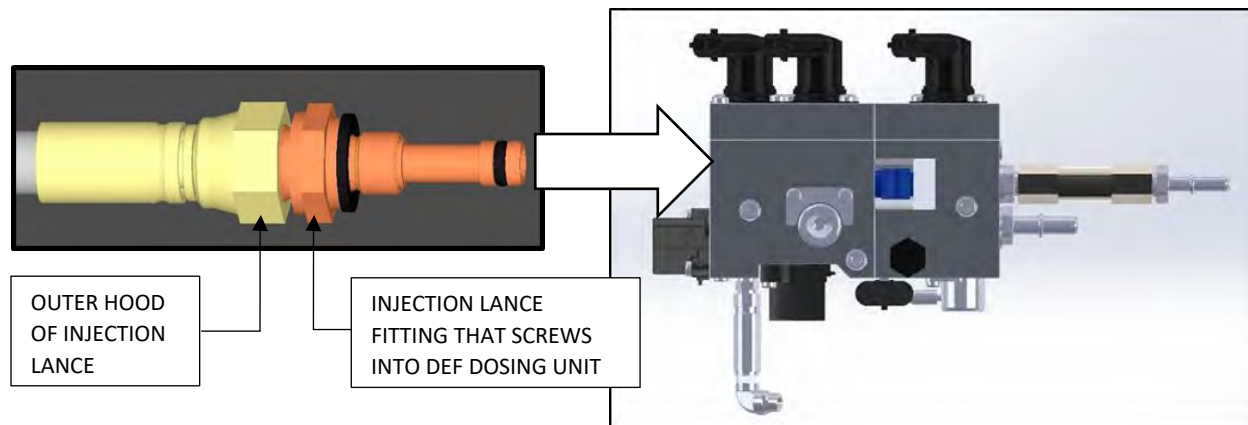

Figure 6: Injection Lance as it Screws into the DEF Dosing Unit
- c. Unscrew the outer hood of the Injection lance (Figure 6)
- d. Unscrew the Injection Lance Fitting from the DEF Dosing Unit (Figure 6)